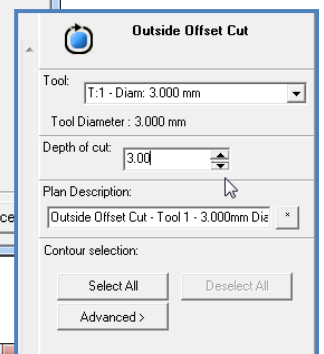

Figure 15
- Check Cut settings as shown in Figure 15 and change if necessary.